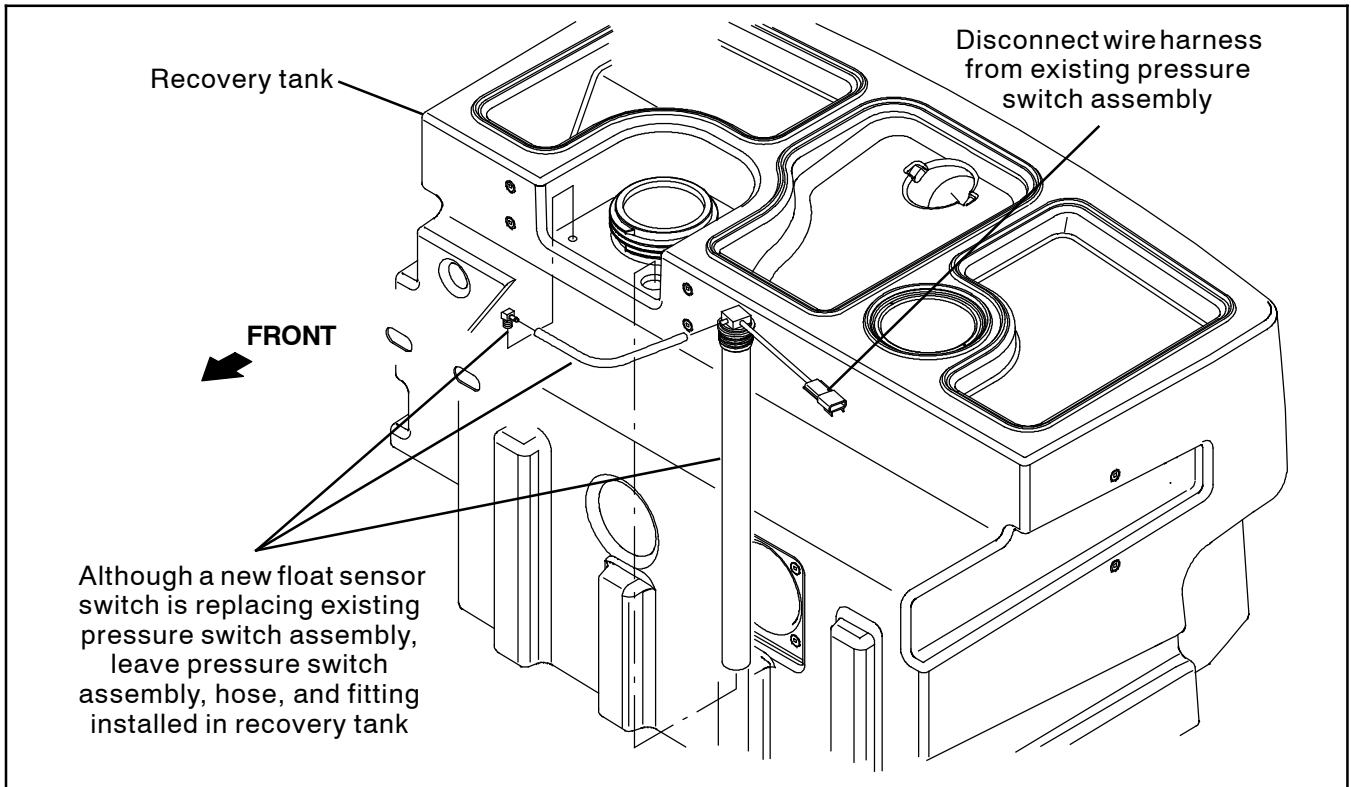

FIG. 1
5. Disconnect the main harness from the existing recovery tank liquid level sensor. (Fig. 1)